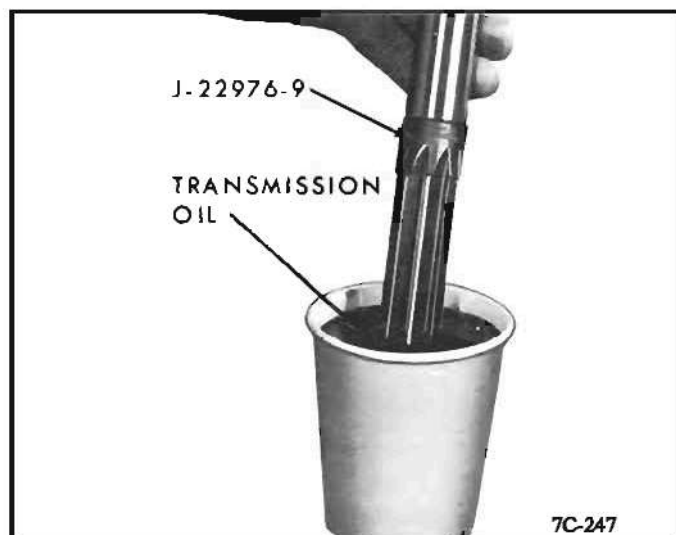

Figure 119
c. **After each 10 revolutions** remove the reamer and dip it into a cup full of transmission oil. This will clean the chips from the reamer and lubricate it. See *Figure 119*.